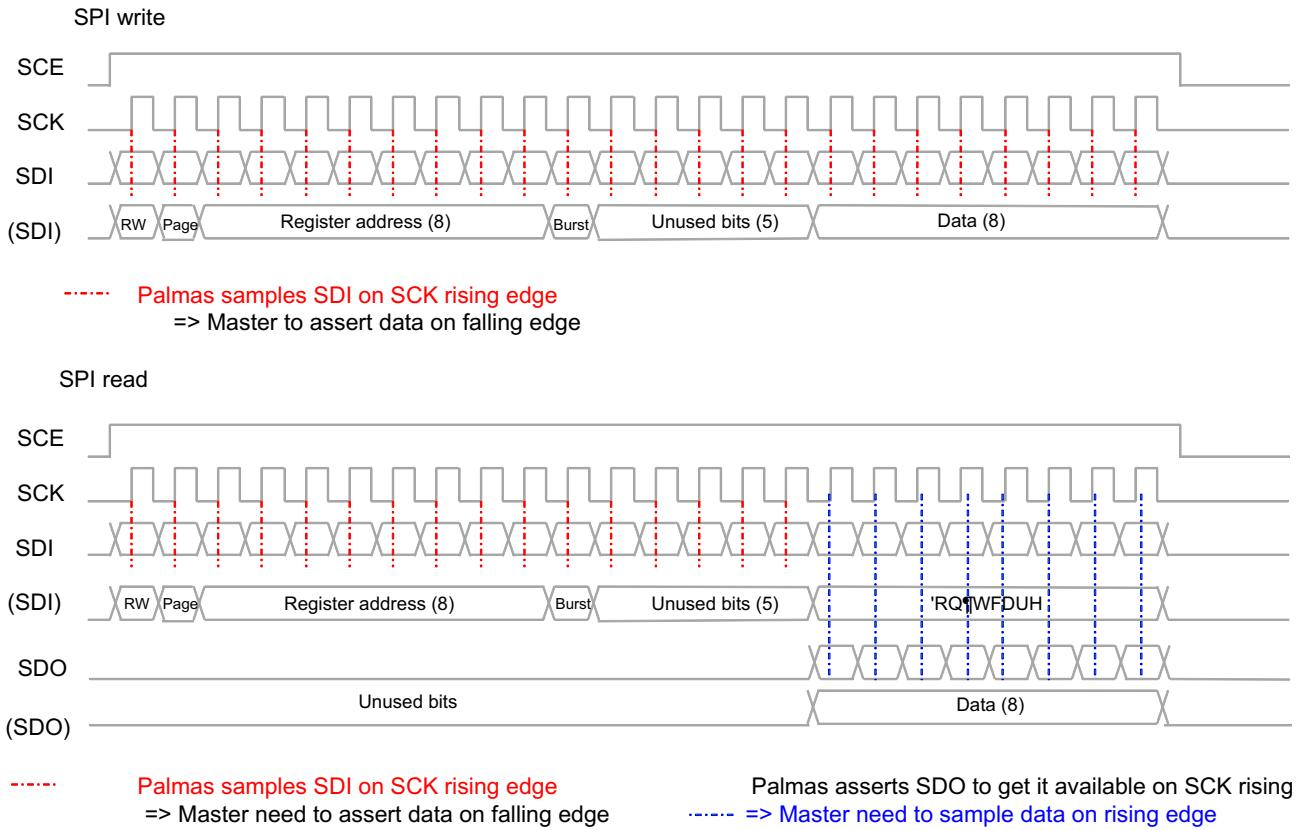

Figure 6-15. SPI Single Read and Write Access
- This consists of fetching and storing one single data location. The protocol is depicted in Figure 6-15.